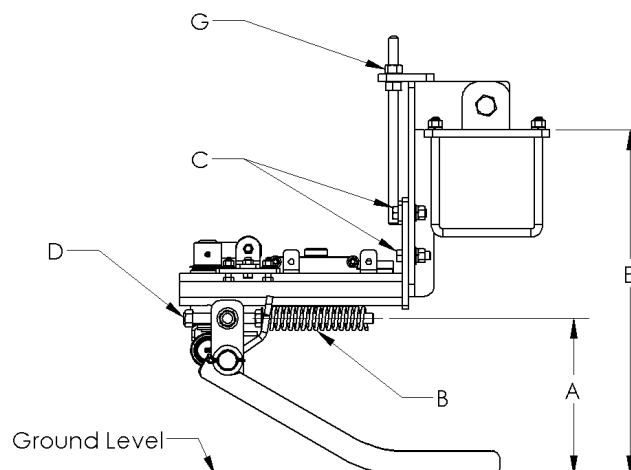

Figure 7-9: Row Finder Adjustment
When defoliating, the row finder wands should be adjusted like Figure 7-8 such that there is 5 in. (12.7 cm) of contact between the ground and row finder wands. Adjustment spring (B), shown in Figure 7-9, can be adjusted to apply more down pressure to ensure constant contact with the beet row.
Likewise, the row finder wands should be angled down when lifted out of the ground as shown in Figure 7-9. Dimension (A) can be adjusted using nuts (D).
1. To change height (E) of the row finder, loosen bolts (C).
2. Adjust jam nuts (G) to desired height.
3. After adjusting height (E), retighten bolts (C).